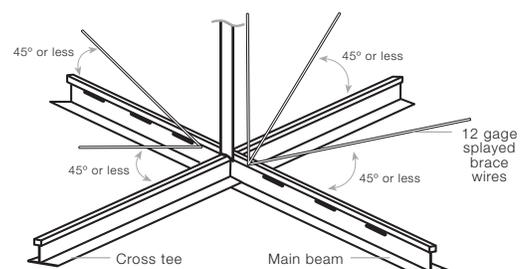

Figure 4
- Lateral force bracing is the use of vertical struts (compression posts) and splay wires to minimize ceiling uplift of light-weight lay-in ceilings. See figure 4.